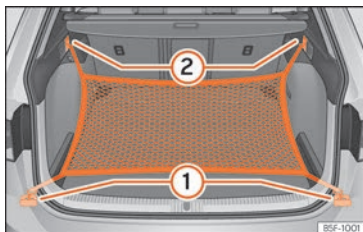

Fig. 190 In the boot: rings ① and hooks ② for securing the net bag (LEON ST model).
- Secure the short net hooks to the fastening rings »» Fig. 190 ① »» ⚠. The bag zip should be facing upwards.
- Secure the straps in the bag hooks ②.